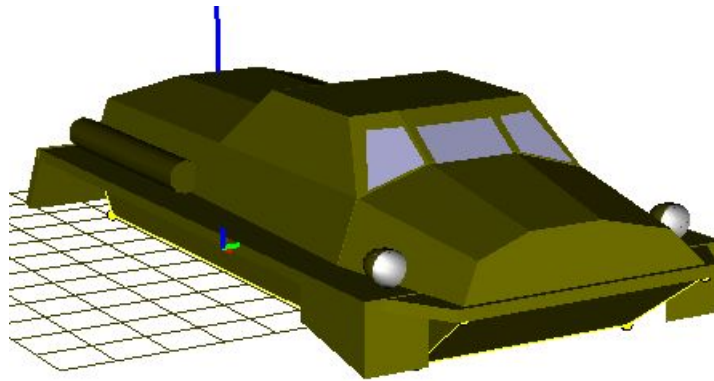

Fig. 26 Hull image
1) Read an image of the hull from the UM database, Fig. 26 by the **Edit | Read from file** command, select the file